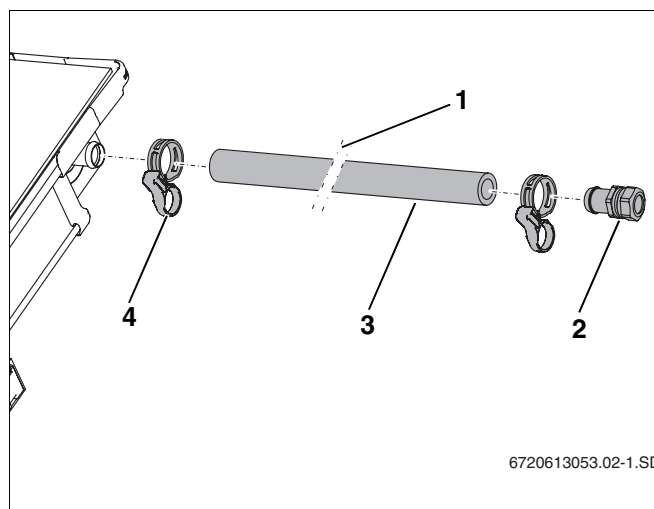

Fig. 57 Fitting flow line (with no vent on roof)
- ▶ Push the long solar hose (1000 mm, Fig. 57, **Item 3**) onto the flow connection on the collector array and fix in place using hose clip (Fig. 57, **Item 4**).
- ▶ Insert hose nozzle with compression fitting (Fig. 57, **Item 2**) into the solar hose as far as it will go, and fix in place with hose clip.
- ▶ Connect header pipe to the R $\frac{3}{4}$ hose nozzle with compression fitting (22 mm) (Fig. 57, **Item 2**).